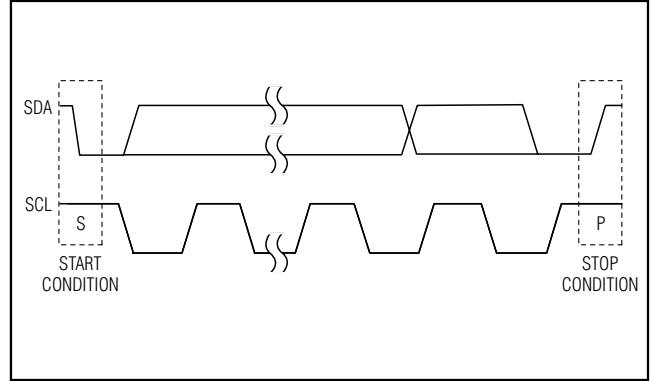
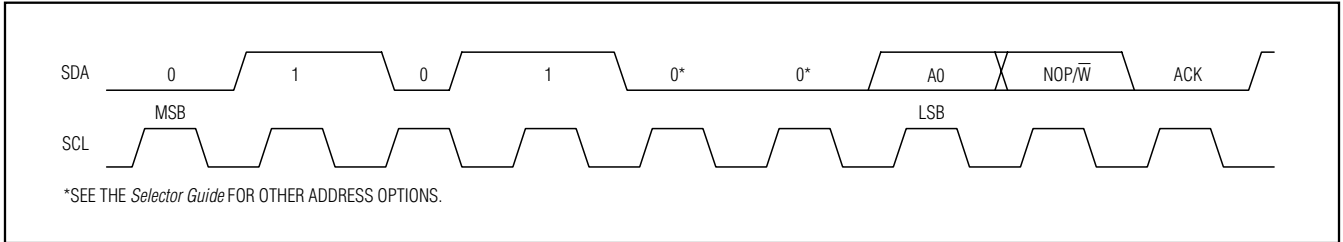
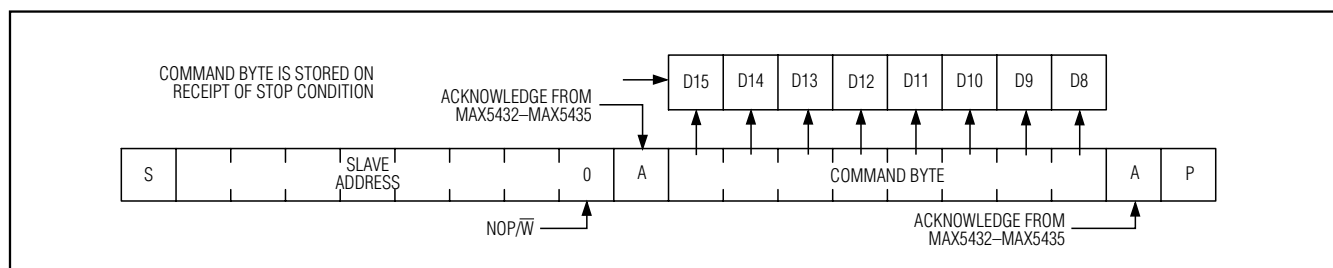

Figure 3. Start and Stop Conditions
Figure 4. Slave Address
Figure 7. Command Byte Received
Each transmission consists of a START (S) condition (Figure 3) sent by a master, followed by the MAX5432–MAX5435 7-bit slave address plus the 8th bit (Figure 4), 1 command byte (Figure 7) and 1 data byte, and finally a STOP (P) condition (Figure 3).
high while SCL is high. The bus is then free for another transmission (Figure 3).
The MAX5432-MAX5435 have a 7-bit-long slave address (Figure 4). The 8th bit following the 7-bit slave address is the NOP/ $\overline{W}$ bit. Set the NOP/ $\overline{W}$ bit low for a write command and high for a no-operation command.